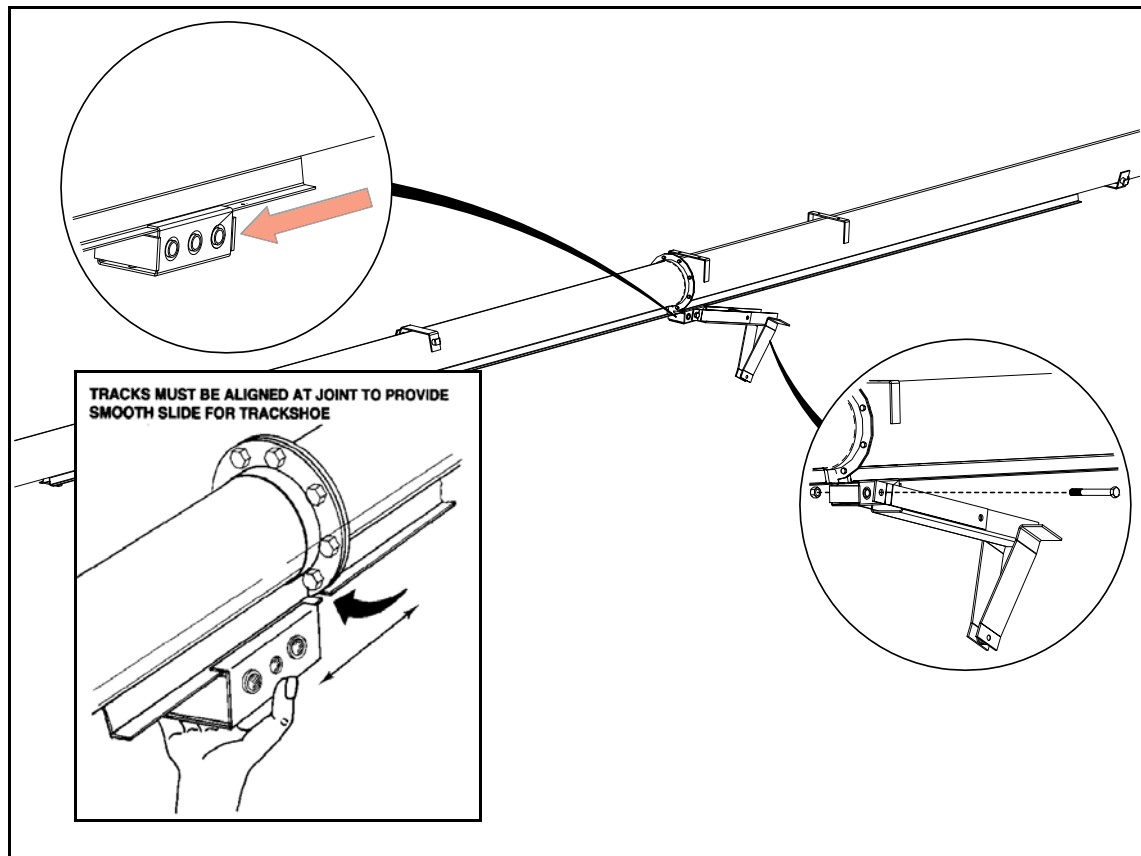

Figure 3.8 Installing the Trackstop and Lift Assist
3. Attach the lift-assist arm to center hole on track shoe (Figure 3.8) with one 3/4" x 6-1/2" bolt and locknut. **Do not over-tighten.** Tighten snug only; this bolt acts as a pivot point.